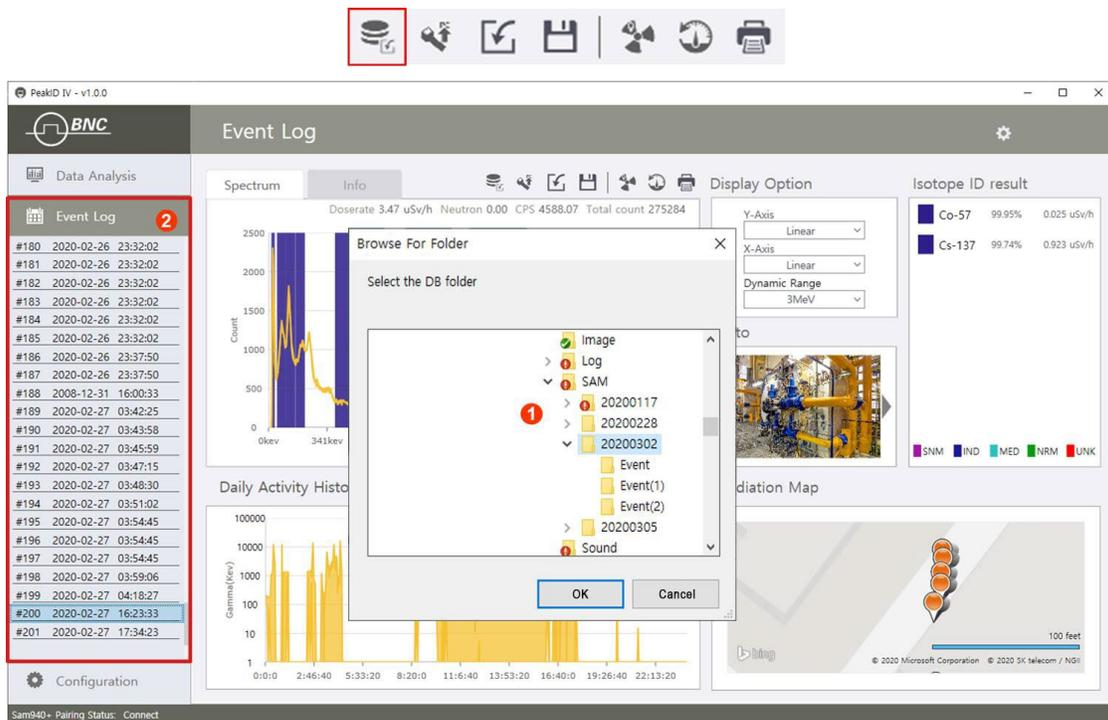

Figure 7.8.4. Load Data from a PC Database Example
1. Click **Load from DB**  (Figure 7.8.4). The database browsing window pops up ①.
3. When a folder is selected, the Event(s) from that folder will appear in the Event List area ②. Select an Event from the Event List to display the spectrum and other information.